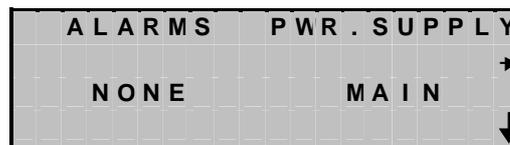

Fig. 5.5
- NONE meaning no field device is in alarm condition (see Fig. 5.5)
The first context, shown in figure 5.5, which concerns the condition where the optional battery load and protection card is not installed, where the only display possible is: